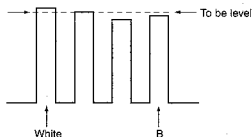

Fig. 3-9
6. Adjust the SUB CHROMA so that the TP305 (B OUT) white level and the B level will be the same. (Fig. 3-9)